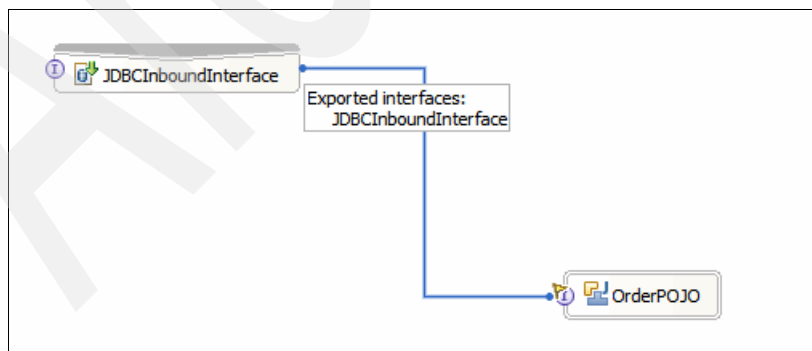

Figure 6-75 Deleting the link between *JDBCInboundInterface* and *OrderPOJO*
2. Select the link between **JDBCInboundInterface** and **OrderPOJO** and delete it (Figure 6-75).